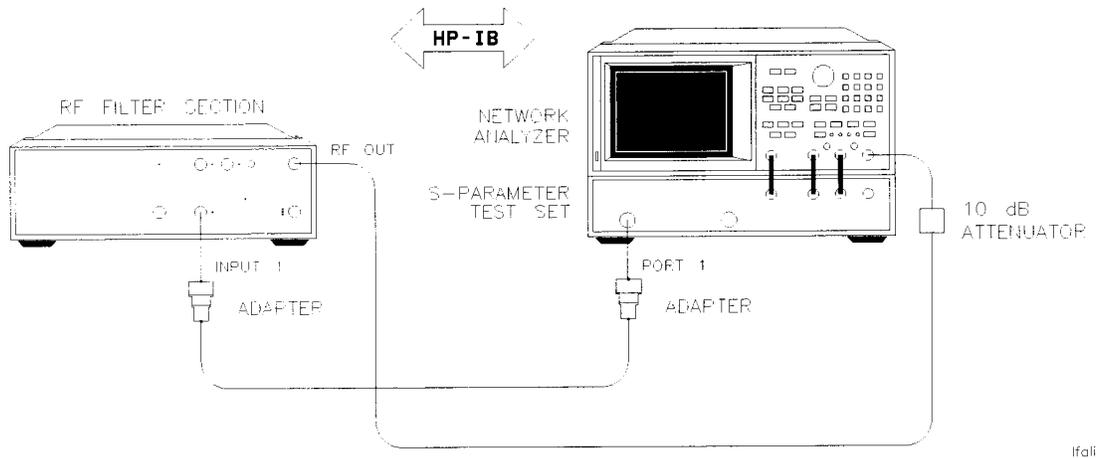

Figure 2-6 Low Frequency Alignment, Input 1 Setup
- The test equipment must be connected as shown in Figure 2-6 on page 2-21.
Figure 2-6 on page 2-21 shows the adjustment setup.